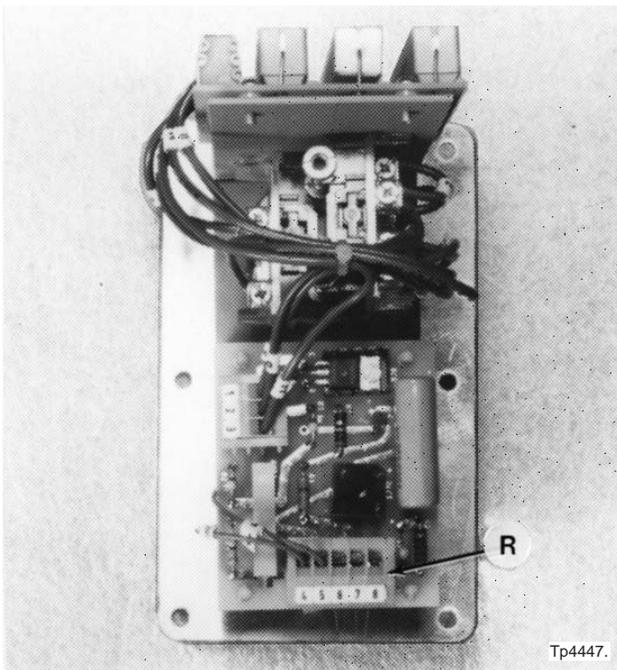

Figure 3.41 - Power Feed Module (Back View)
6. Record the connection; then disconnect wire F1 from terminal block “R”, Figure 3.41 .
16. Connect wire F1 to terminal block "R", Figure 3.41, as recorded during the removal procedure.